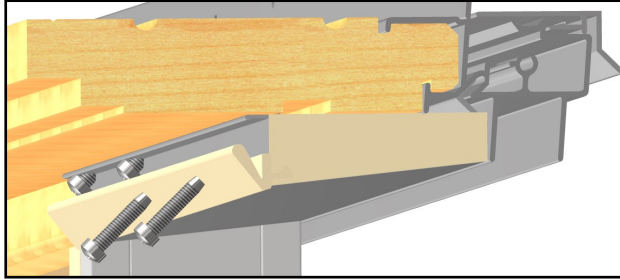
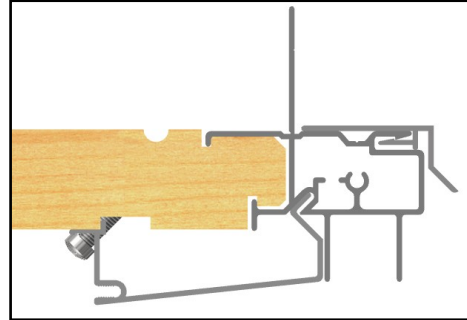

Figure 9
Figure 10
11. Once the head and sill clip screws are secured, apply the head jamb cover using a head jamb cover screws. (Fig. 9 & Fig 10)